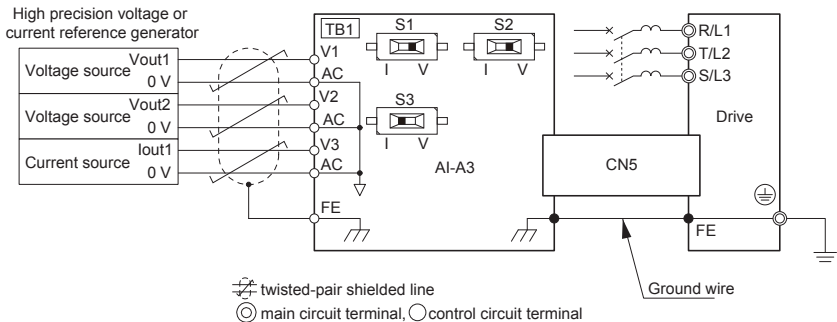

Figure 9 Option Connection Diagram
- Wire the customer-supplied analog input signal to terminal block TB1 on the option. Refer to **Figure 9** for wiring instructions.